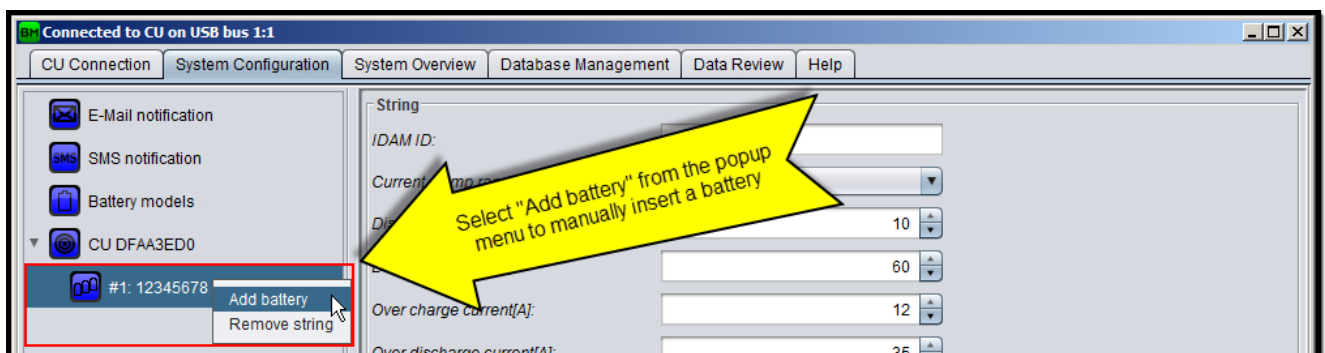

Figure 36: Manually add battery
1. Right click on the String icon to open the popup menu and select **"Add battery"** as shown on Figure 36.